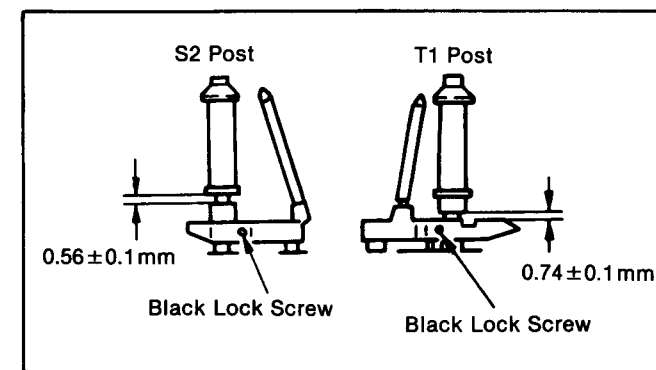

Fig. M18
- (1) For adjustment of S2 and T1 post height, loosen the Black Lock Screw located on the lower portion of Posts (S2 & T1) using the Lock Screwdriver.
- (2) Turn top of post with Hex. Wrench (1.5mm) slightly in either direction as necessary to the correct clearance as shown in Fig. M18.